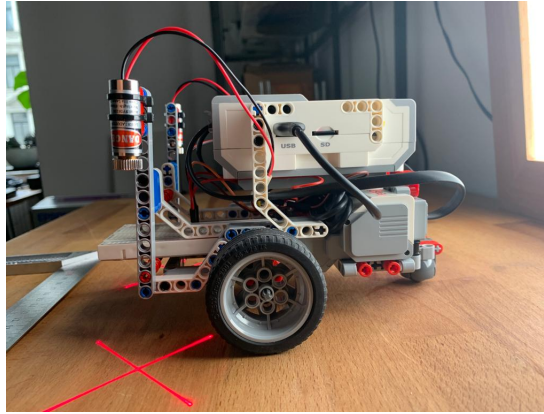

Figure 1.3: Rosa - Side View
- The robot is three-wheeled with a differential drive configuration. In this configuration (Figure 1.3), two of the wheels placed in front of the robot on either sides, have independent actuators. The last wheel in the back, is a castor wheel which is non-driven placed for increasing the stability of the bot.